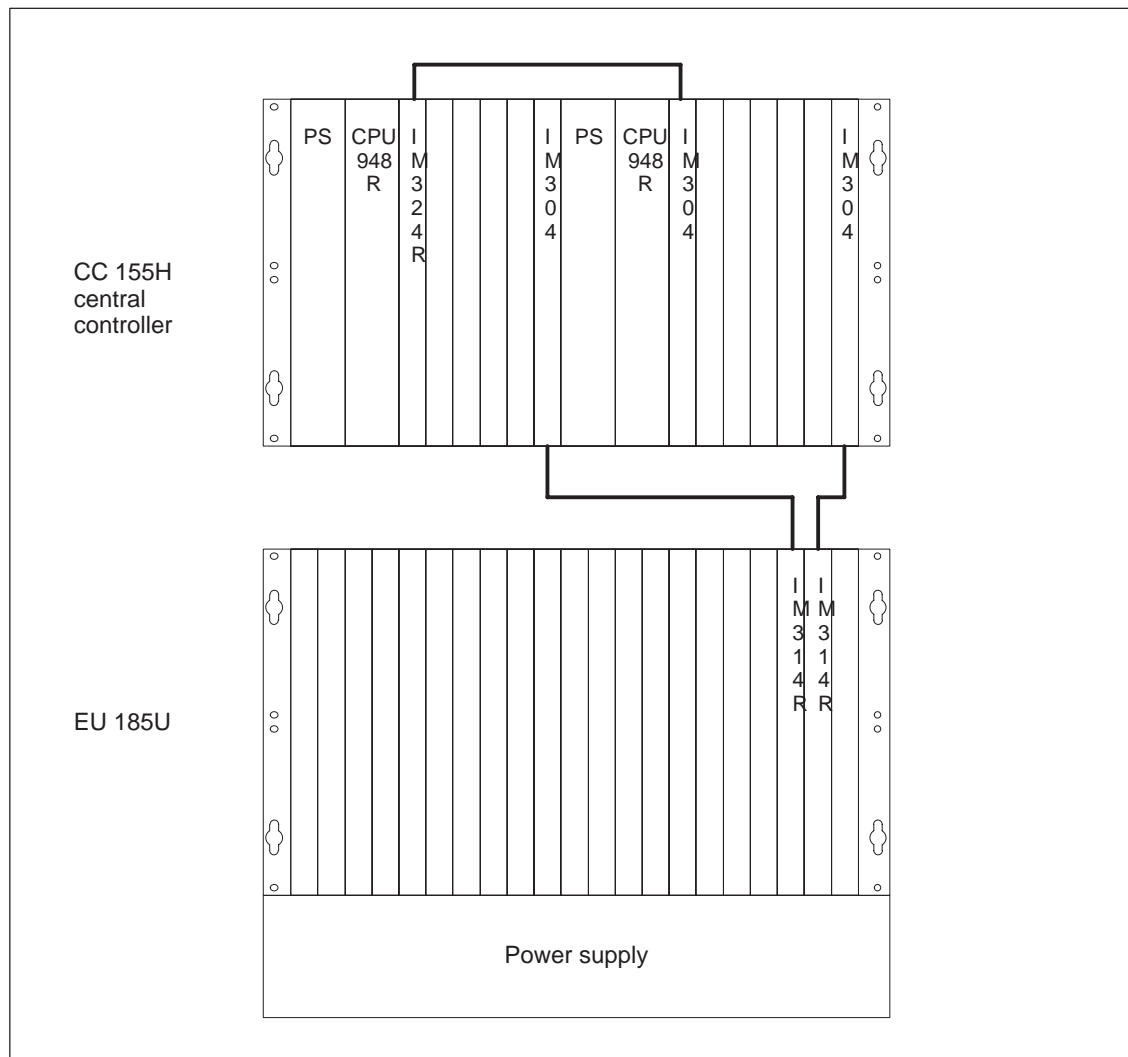

Figure 1-2 CC 155H with EU 185U
**CC 155H with EU 185U** Figure 1-2 shows an example of how you can expand the CC 155H with an EU 185U.